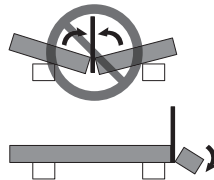

Fig. 5
- Provide supports for panels or any oversized workpiece to minimize risk of wheel pinching and kickback. Large workpieces tend to sag under their own weight. Supports must be placed under the workpiece so that the cutting surface to open. (Fig. 5)